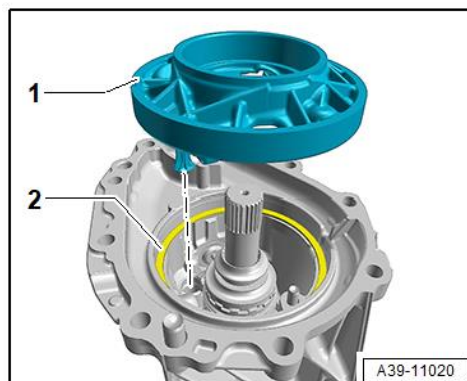

Figure 9. Gear carrier and shim removal.
7. Remove the gear carrier (Figure 9, position 1 and Figure 10). During this step, guide the shift fork out of the clutch module (engagement collar), then remove the shim (Figure 9, position 2).